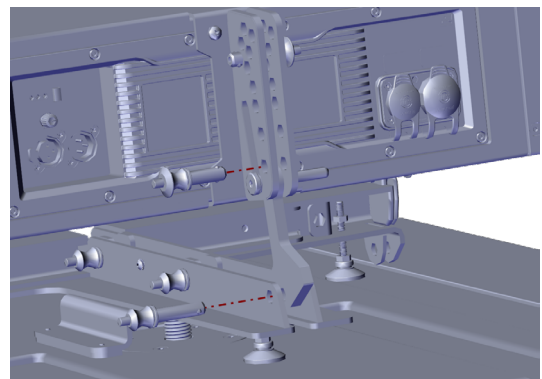

Figure 17
- Swing rear rigging on cabinet down and secure to flybar using pin on the frame (Figure 17).